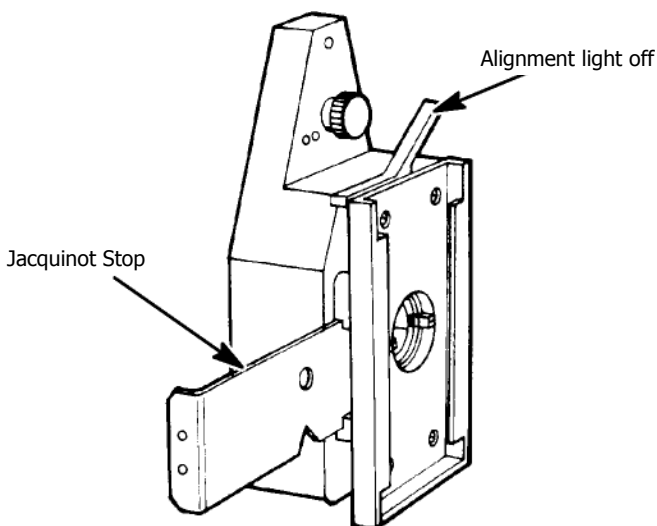

Figure 18 Preparing the Sample Slide.
1. Make sure that the sample slide is empty, the Jacquinet stop (J-stop) is removed and the lever for the alignment light is in the off position (Figure 18).